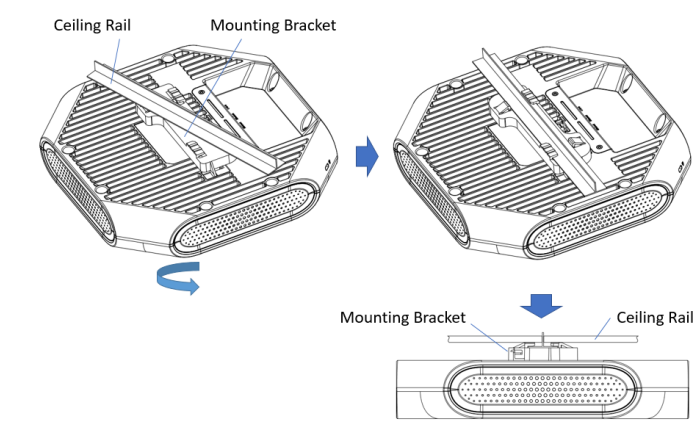

Figure 5: Mounting the AP
- Hold the AP next to the ceiling tile rail with the ceiling tile rail mounting slots at approximately a 20-degree angle to the ceiling tile rail (see Figure 5). Make sure that any cable slack is above the ceiling tile.
- Pushing toward the ceiling tile, rotate the AP clockwise until the device clicks into place on the ceiling tile rail (see Figure 5).